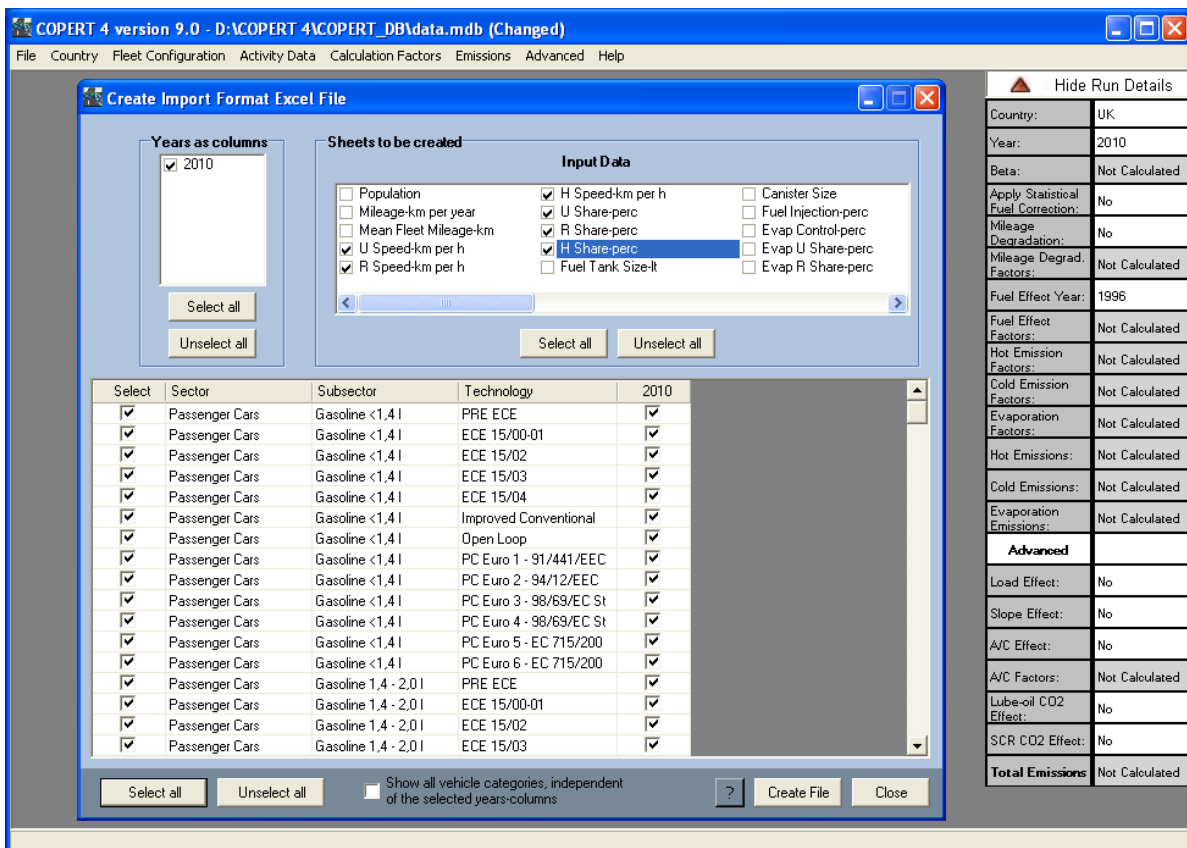

Figure 6 - Create Import Format Excel File Screen
- The screen shown in Figure 6 will appear. Click on 'Unselect all' in the Input Data section, and then select 'U Share-perc', 'R Share-perc' and 'H Share-perc'. To add speed to the circulation data in the database, 'U Speed-km per h', 'R Speed-km per h' and 'H Speed-km per h' should also be selected. In the vehicles section, click on 'Select all' and then click 'Create File'.